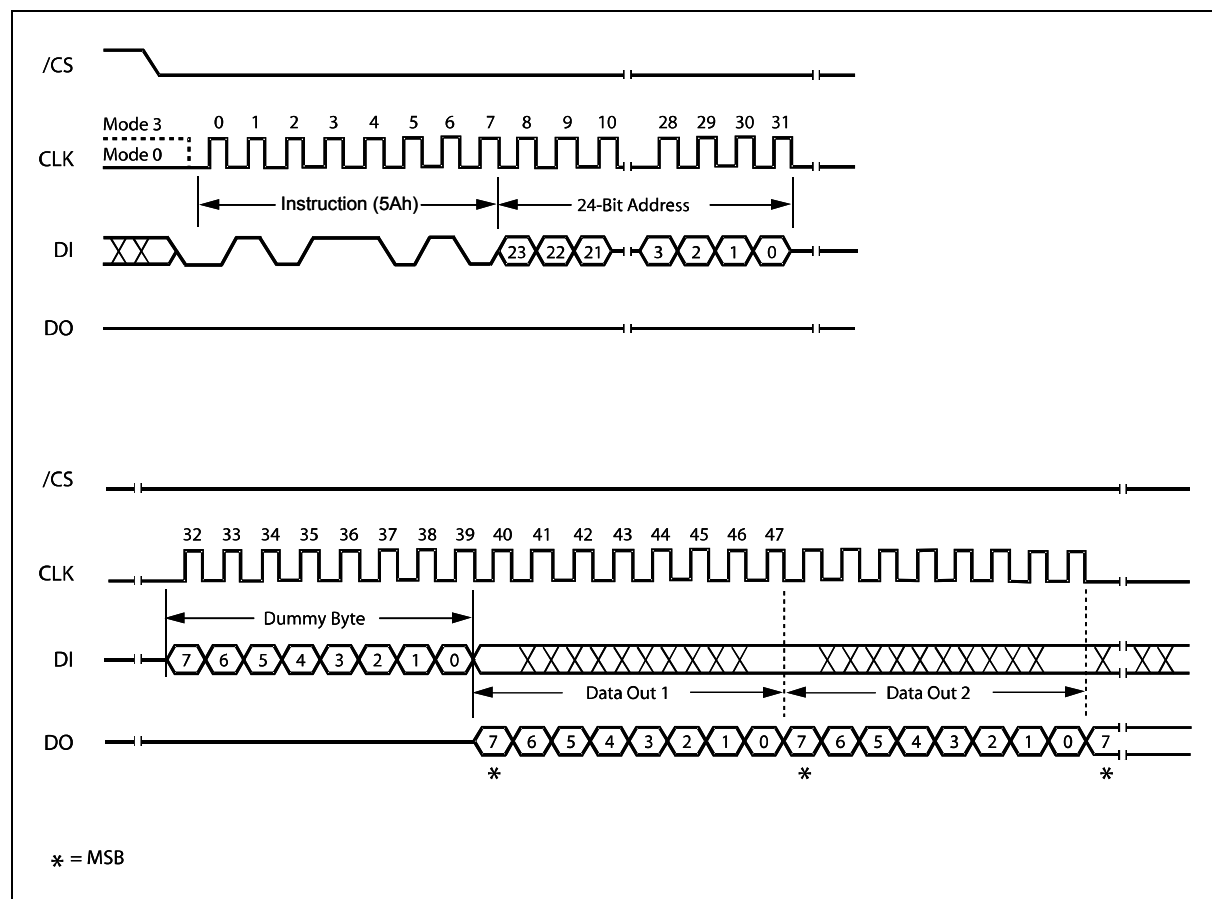

Figure 34. Read SFDP Register Instruction Sequence Diagram
The Read SFDP instruction is initiated by driving the /CS pin low and shifting the instruction code “5Ah” followed by a 24-bit address (A23-A0)(1) into the DI pin. Eight “dummy” clocks are also required before the SFDP register contents are shifted out on the falling edge of the 40th CLK with most significant bit (MSB) first as shown in figure 34. For SFDP register values and descriptions, refer to the following SFDP Definition table.